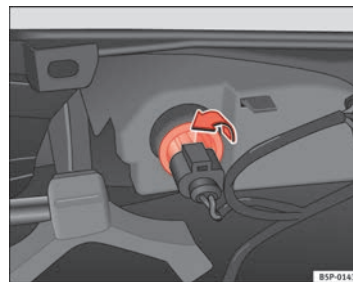

Fig. 200 Lamp on interior side of bumper
- Rotate the bulb holder to the left, and remove it in the direction of the arrow ⇒ Fig. 200.